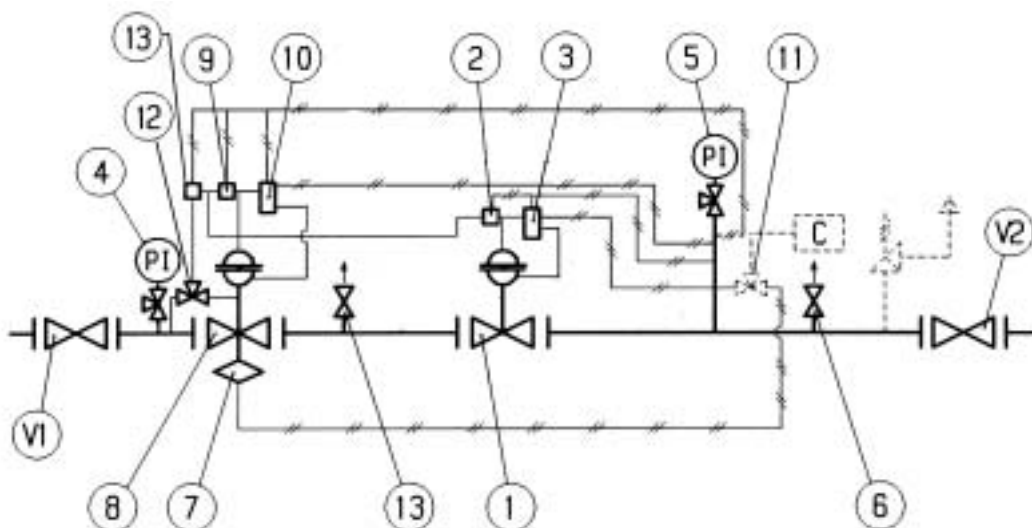

Fig. 25
5.6 COMMISSIONING THE REGULATOR PLUS REFLUX 819/FO IN-LINE MONITOR WITH SB/82 SLAM-SHUT VALVE (FIG. 25)